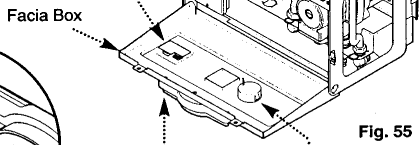

Fig. 53
1. Pull the control knob off the spindle and remove the securing nut and washer (Fig. 53).